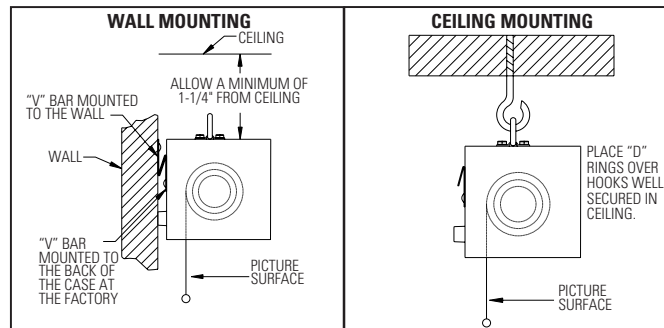

FIGURE 2
4. There are two methods of mounting the screen: suspended from ceiling and wall mounted. See Figure 2.